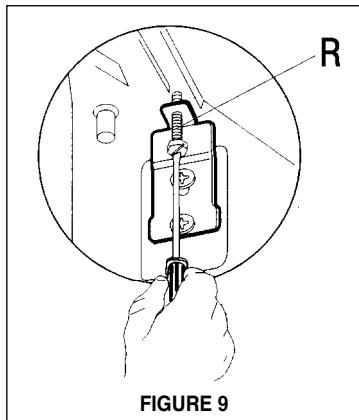

FIGURE 9
5. Level the canopy. The height and level of the canopy can be adjusted by rotating the adjustment screws (**Item R** in **FIGURE 9**) on each side of the blower inside the rangehood